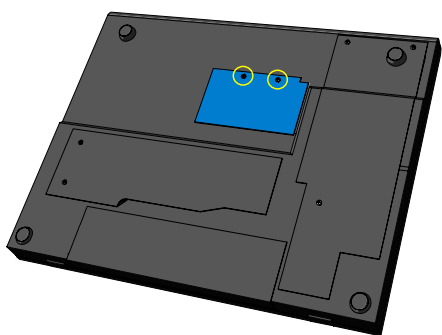

Fig.6
1. Remove the small panel located approximately in the middle of the notebooks underside (two screws hold the panel in place). (See Fig.6)